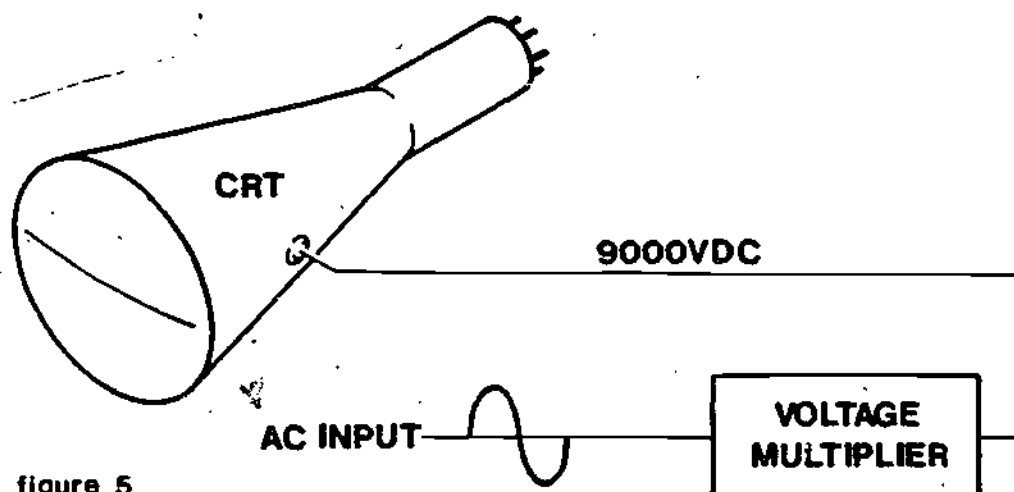

figure 5
- ③ Voltage multipliers are used primarily to develop high voltages where there is a low current requirement. The most common application of the high voltage output of a voltage multiplier is the anode of a cathode-ray tube (CRT). See Figure 5. Voltage multipliers supply